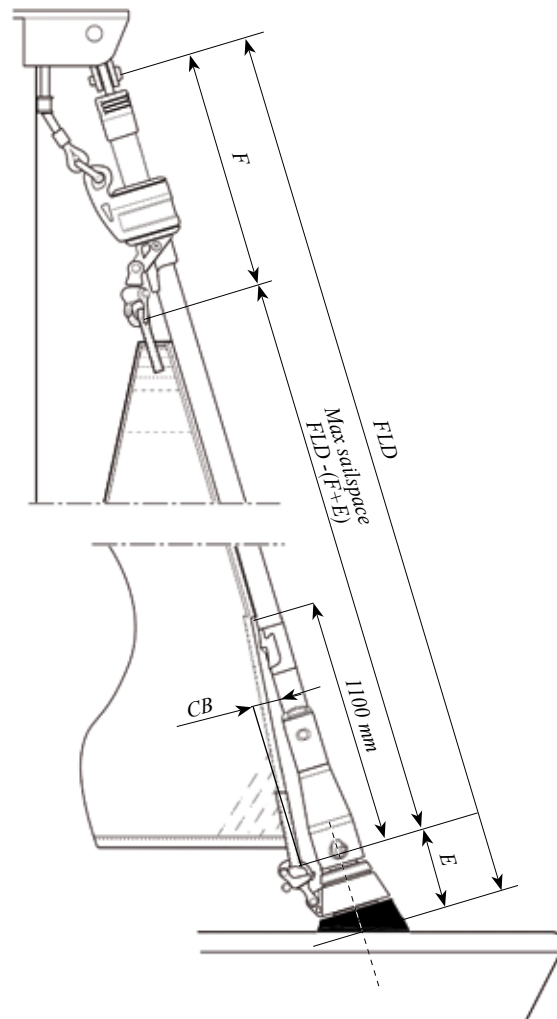

Fig. 7.1.b
- To fit the Furlex system, an existing sail may need a number of modifications. The maximum luff length is calculated as shown in Table 7.1.1 and fig. 7.1.b. FLD -(F+E) (existing forestay length FLD as per Table 3.6.1 – less head and tack deduction).